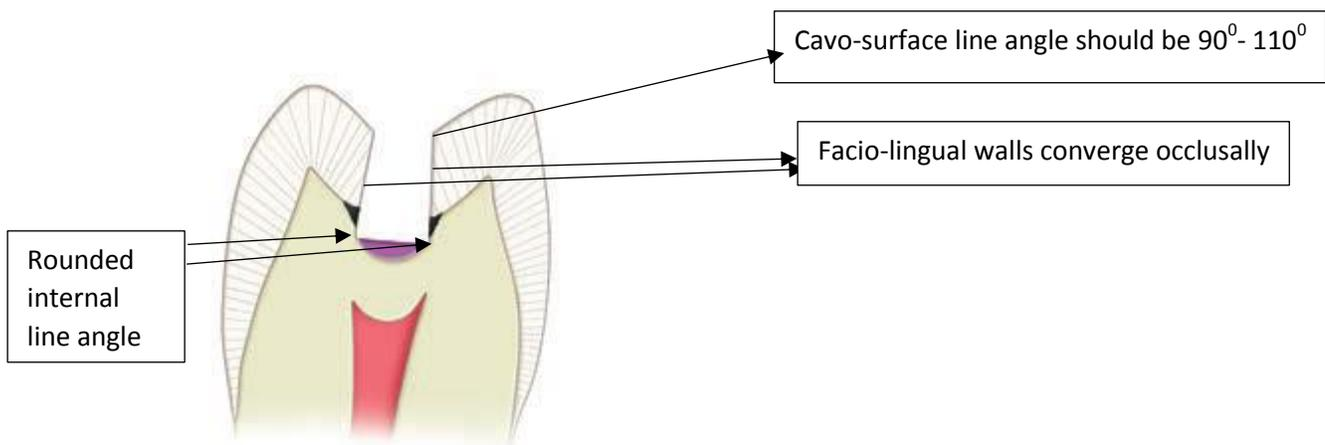

Fig 3: resistance factors which prevent fracture of the tooth
- Removal of unsupported enamel by making the margin ( $90^{\circ}$ - $110^{\circ}$ ) because less than  $90^{\circ}$  the tooth is more subjected to fracture fig 3.
- All internal line angle should be rounded to prevent stress concentration area fig3.
- Facial & lingual walls should be parallel to each other or converge occlusally ( $5^{\circ}$ ) fig3.